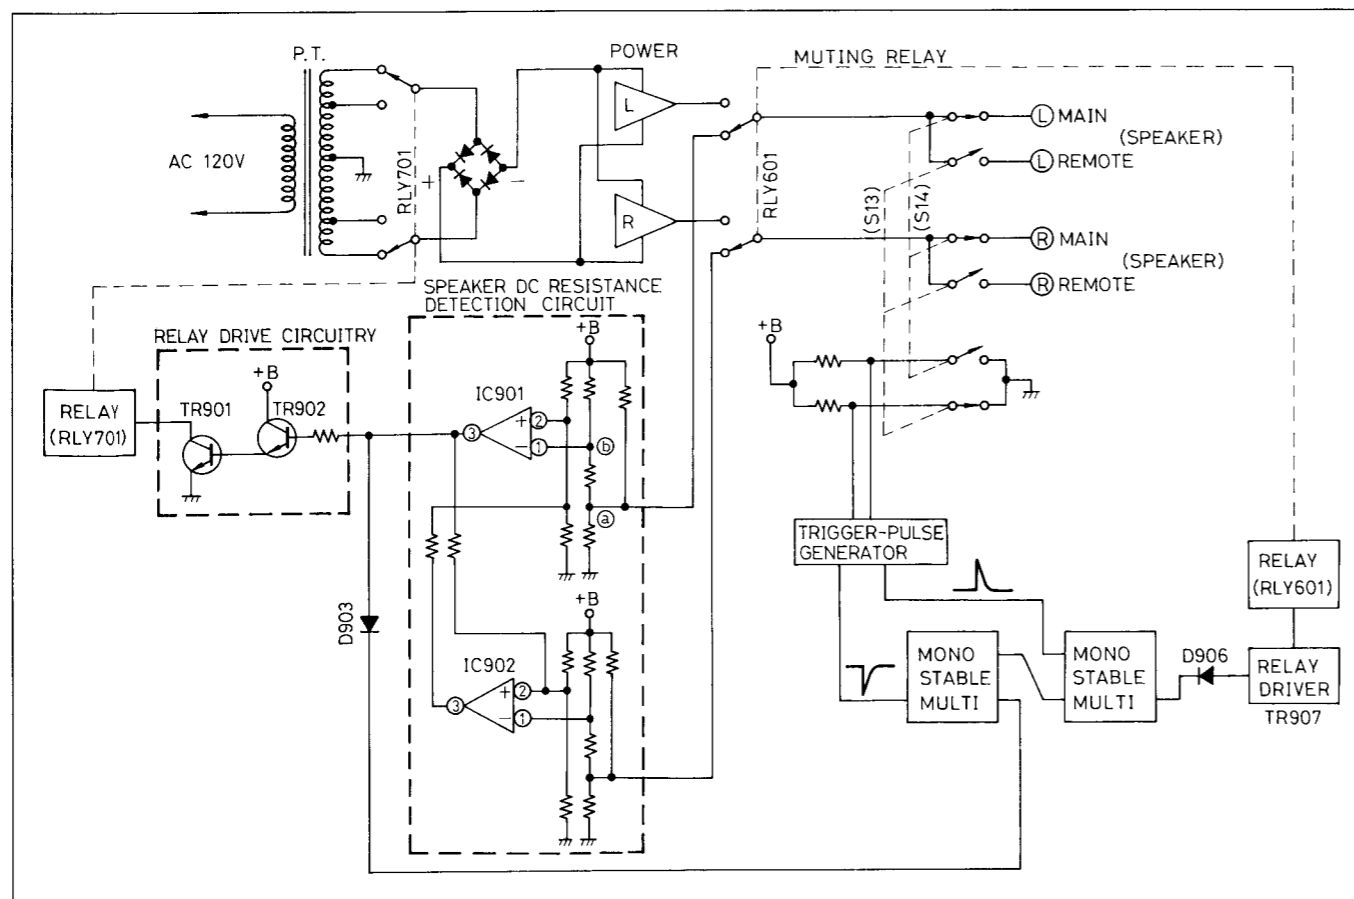

Fig. 1
After the speakers are connected to this unit, turn on the power switch. The muting circuitry of this unit will function for about 5 seconds, until output from the main amplifier appears at the speaker, thus maintaining the muting relay (RLY601) in the condition shown in figure 1. Speaker impedance is detected during this interval. With RLY601 in the condition shown in figure 1, the speakers will be connected in parallel to point (a) of the speaker DC resistance-detection circuitry, and the voltage at point (b) will decrease. With a reference voltage of 1.5V applied to terminal (2) of the comparator (IC901), a voltage of 6V will appear at terminal (3) when the voltage of terminal (1) becomes lower than that of terminal (2). In other words, the output voltage of terminal (3) activates TR902 and TR901 of the relay-drive circuitry, and the tap-selection relay (RLY701) switches over to the low-voltage tap. When 8Ω speakers are connected to the "MAIN" and "REMOTE" speaker terminals and both speaker switches are on, total impedance becomes 4Ω, and operation becomes the same as when speakers of 6Ω or less are connected.
However, because this transistor becomes on only at the instant that the positive pulse is applied, the collector also returns to positive potential about 0.3 second later. During this interval of about 0.3 second, the TR907 muting-relay-drive transistor becomes off, and RLY601 becomes in the condition shown in figure 1. Then speaker impedance is detected as described in items 1, 2 and 3, and the tap-selection circuitry is activated.